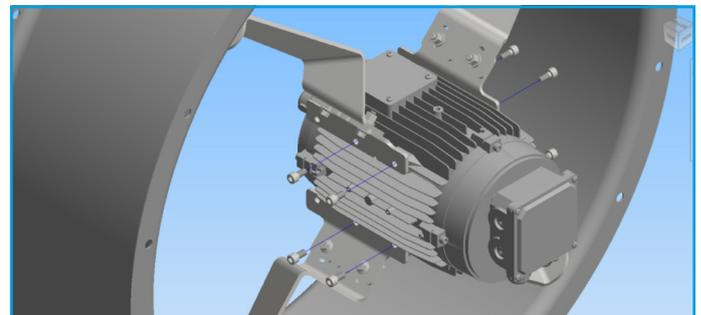

Figure 8. Removal all motor fixings.
4. Remove all motor fixings (either side of the motor) as per Figure 8, ease the motor clear of the fan casing then lower onto a suitable pallet for removal.